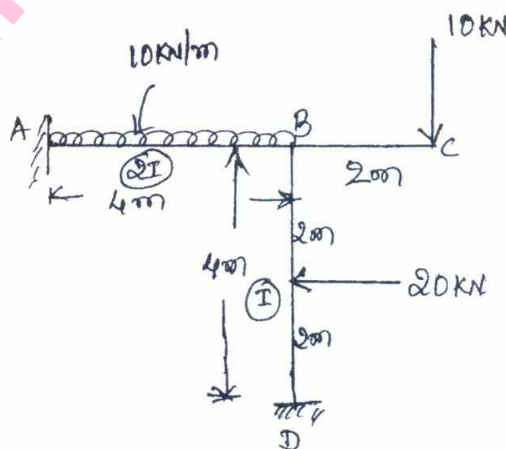

Fig. Q2
- 2 Analyse the frame shown in Fig Q2 by using slope deflection method. Draw BMD and SFD. (20 Marks)